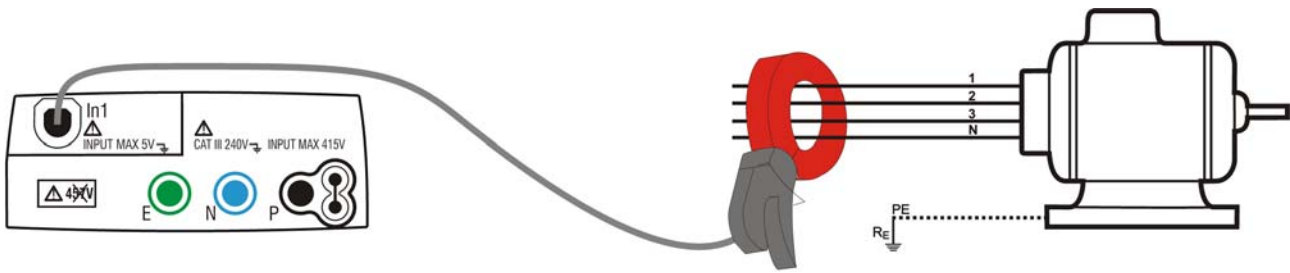
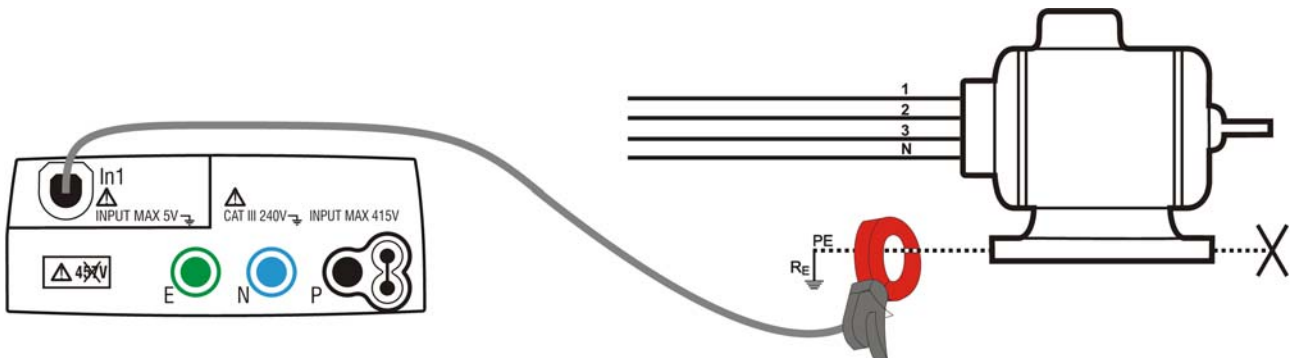

Fig. 30: Indirect measurement of leakage current in three-phase systems
Fig. 31: Direct measurement of leakage current in three-phase systems
- For indirect measurements of the leakage current, connect the external clamp according to Fig. 30. For direct measurements of the leakage current, connect the external clamp according to Fig. 31 and disconnect possible additional earth connections which could influence the test results